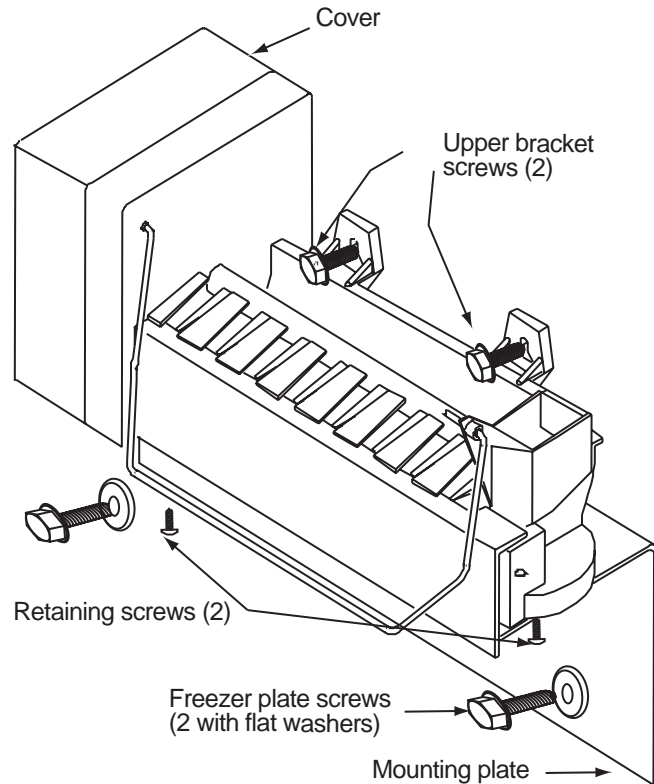

Figure 50. Ice maker screw locations
4. Unfasten two retaining screws to detach the ice maker from mounting plate. See Figure 50. Save screws.
1. Remove the two screws holding the ice maker to the mounting plate. See figure 50, page 52.